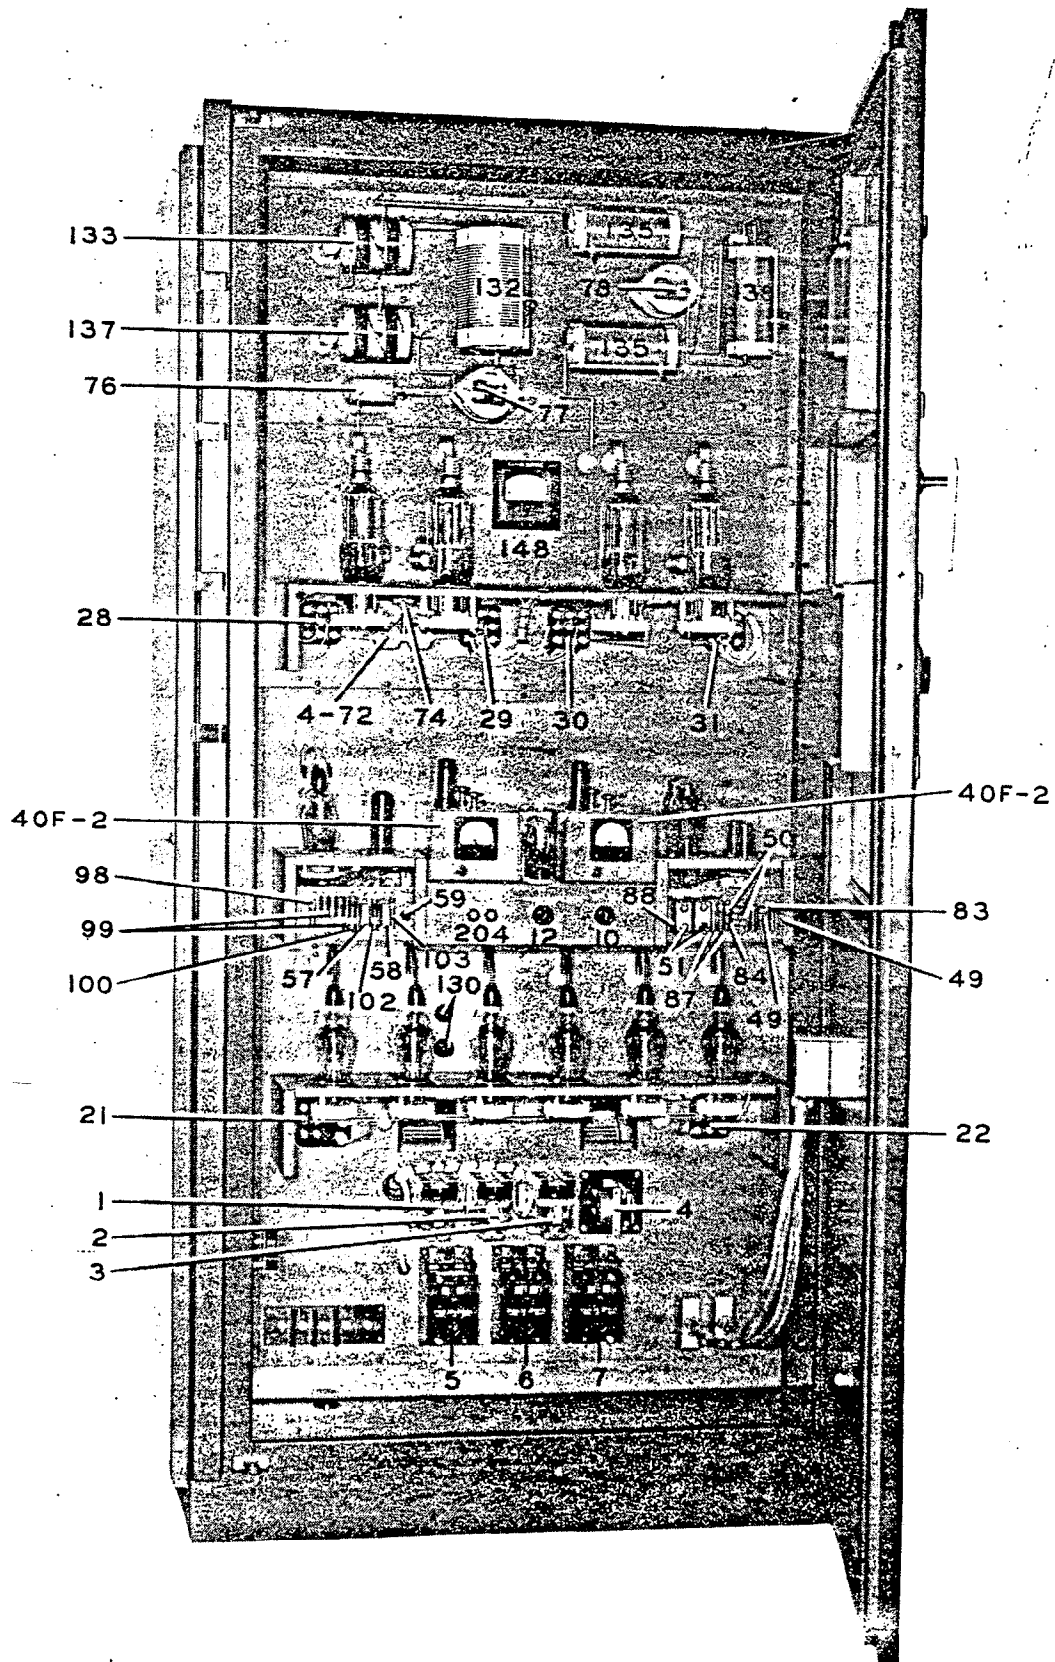

Figure 3-11. 300G Transmitter - Front Open View
(5) Press the Filament Power Stop button.
(6) Close the Low Voltage Supply circuit breaker, Item 7.
(7) Press the Filament Power Start button. When approximately 30 seconds have elapsed the time delay relay, Item 4, should operate. If the time necessary for the operation of this relay is not within 10% of the 30 second limit the time of operation should be adjusted. The relay, Item 4, is located on the lower front panel of the 401W Unit. (Refer to the photograph, figure 3-11, for exact location of the relay.) When operated the normally open contacts of relay, Item 4, complete the circuit necessary for the operation of the low voltage relay, Item 3. The low voltage transformer, Item 24, should now be energized.
(8) Close the High Voltage Supply Circuit Breaker, Item 6.
(9) Close the cabinet doors. Press the Plate Power Start button. The high voltage plate relay, Item 2, will operate and be held in the operated position through the door switches, the Plate Power Stop switch, the Filament Power Stop switch and the circuit breaker, Item 5. The high voltage plate transformer, Item 22, should now be energized.
Item 59, until the test meter indicates approximately 5 ma of grid current. Refer to figure 3-11.
6. Throw the low voltage supply circuit breaker to the OFF position. Refer to figure 3-11.